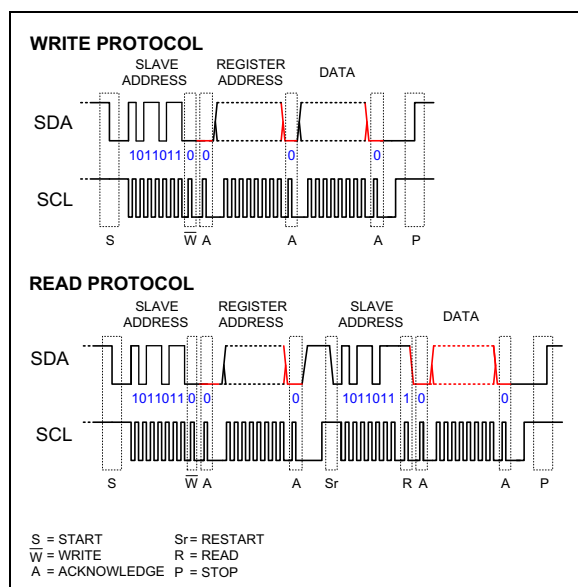

FIGURE 5-4: Required Communications for Read/Write Operations via I²C Interface.
Figure 5-4 shows the communications required for write and read operations via the I²C interface. The black lines show master communications and the red lines show the slave communications. During a write operation, the master must drive SDA and SCL for all stages, except the Acknowledgment (A) stage shown in red, which are provided by the slave (MIC23156).